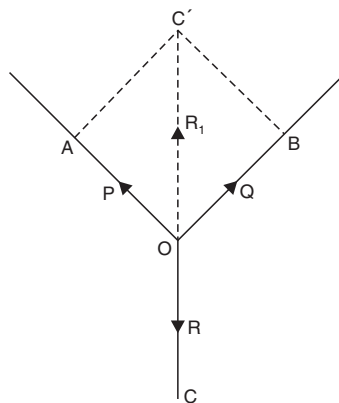

Fig. 1.3
**Parallelogram law of forces.** Refer to Fig. 1.3.